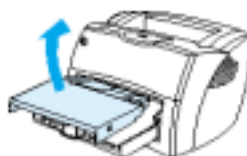

Figure 15. Removing the Media Tray
8. Remove the printer media tray as shown in Figure 15.